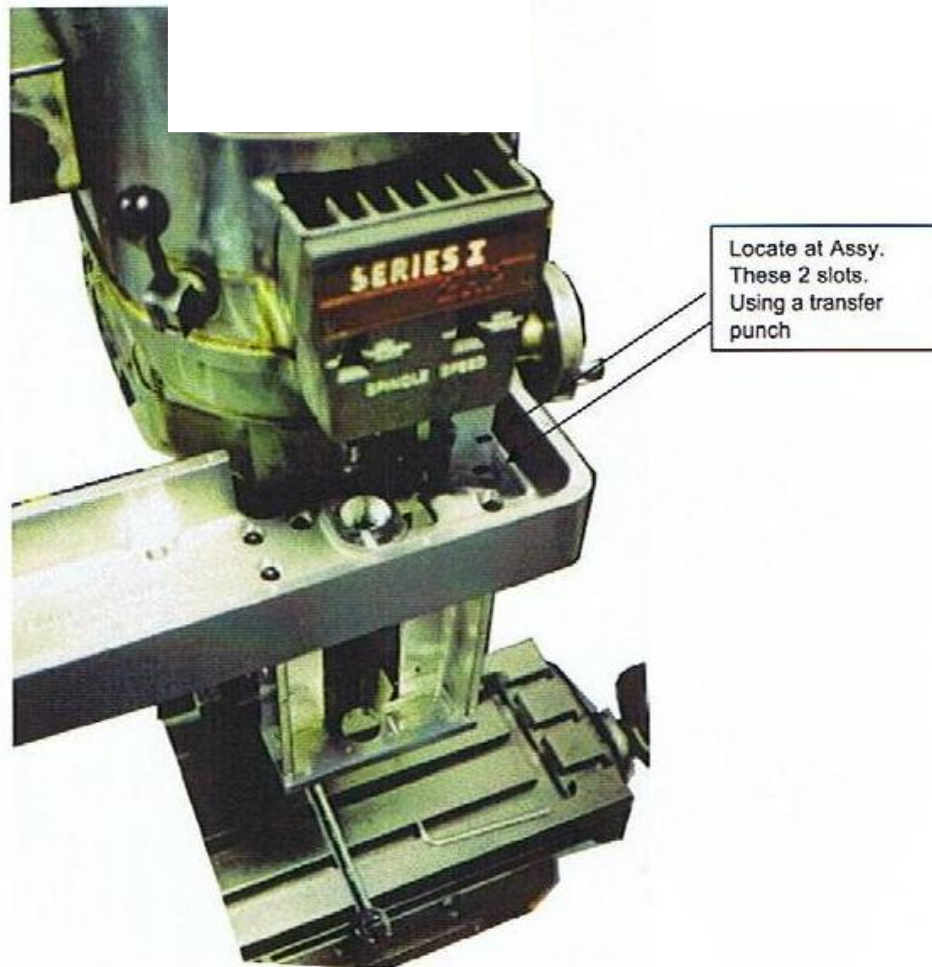

Figure 8
27. Fasten it to the head using (4) 10-24 x 1 1/4" SHCS for Bridgeport or 5mm x 35mm SHCS for Oriental and hard washers supplied .
29. Place the feed disengage mount on the front of the feed disengage lever boss. (see figure 8)